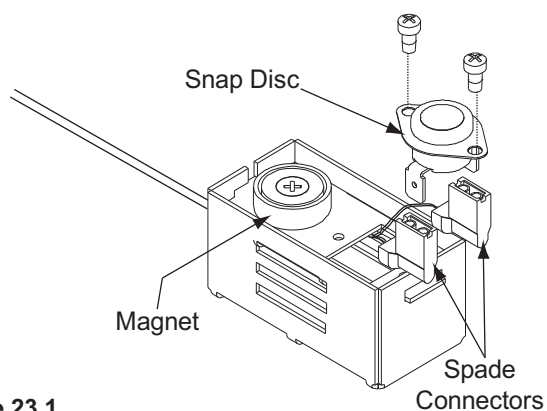

Figure 23.1
5. Pull the snap disc and spade connectors up and out of bracket as shown in **Figure 23.1**